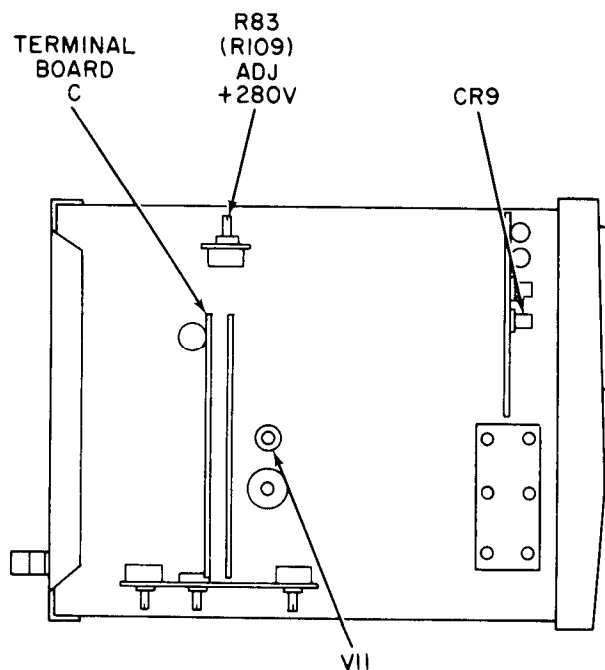

Figure 3. Dc milliammeter - left-side view.
(1) Connect multimeter positive lead to any red lead on TERMINAL BOARD C (F) (fig. 3) and negative lead to chassis ground. If multimeter does not indicate between +274.4 and +285.6 (+266 and +278) V dc, perform **b** below.
(2) Connect multimeter positive lead to pin 2 of V11 (fig. 3) and negative lead to chassis ground. Multimeter will indicate between +11 and +13 Vdc.
(3) Move positive lead to anode of CR9 (fig. 3). Multimeter will indicate between -6.0 and -8.0 V dc.
b. Adjustments. Adjust ADJ +280V, R83 (ADJ +272V, R109) (fig. 3) for +280 (+272) Vdc indication on multimeter (R).